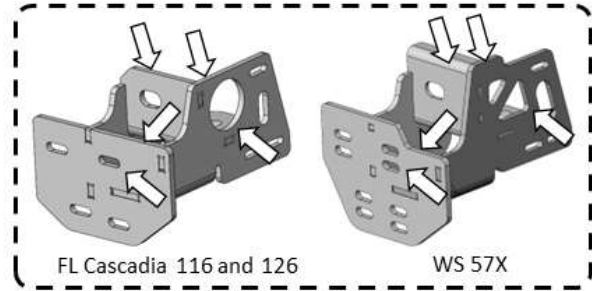

Figure 2e:
5. Install the HERD Side Submount using the OEM Hardware (M18 & M10), and HERD Hardware (3/4" & M10); as shown in Figure 2f. Fully tighten the OEM Hardware (M18 & M10). **Torque the M10 Hardware to 48 ft-lb, and the 3/4" Hardware to 240 ft-lb.** Do this one side at a time. Please use the specific Herd Side Submount for your Truck Model; see Figure 2e.